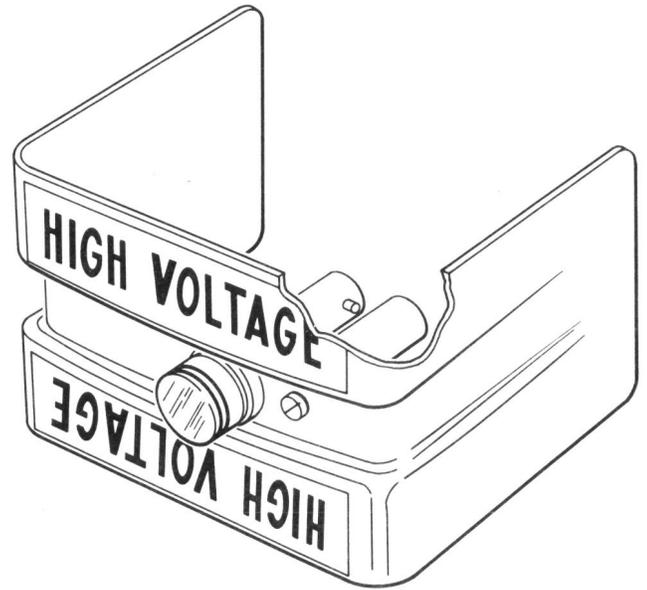

Fig. 9—C Warning Marker
4.01 The C warning marker (Fig. 9) should be installed on a pair when a high voltage breakdown test is being performed. The C warning marker should not be removed, or the pair restored to normal, until notified by the test desk or cable locating bureau according to local instructions.